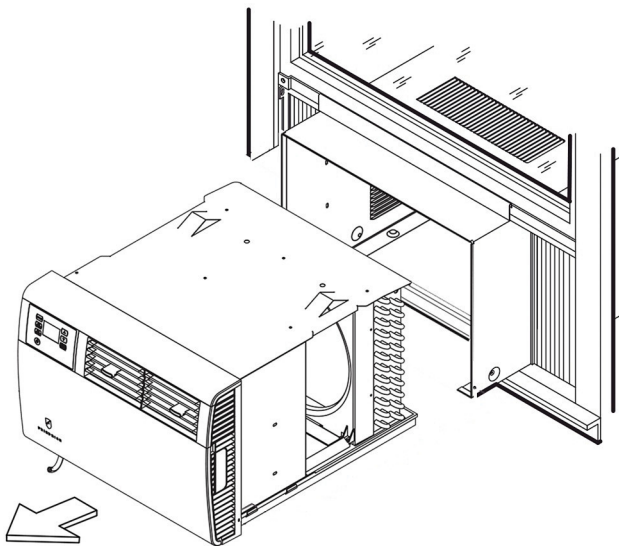

Figure 502 (Remove Chassis)
2. Hold the cabinet stationary then carefully slide the unit out of the sleeve. Make sure to fully support the unit. (Refer to Figure 502)
3. Reinstall the EntryGard™ screws. (Refer to Figure 502)
4. Reinstall the EntryGard™ screws.. (Refer to Figure 502)